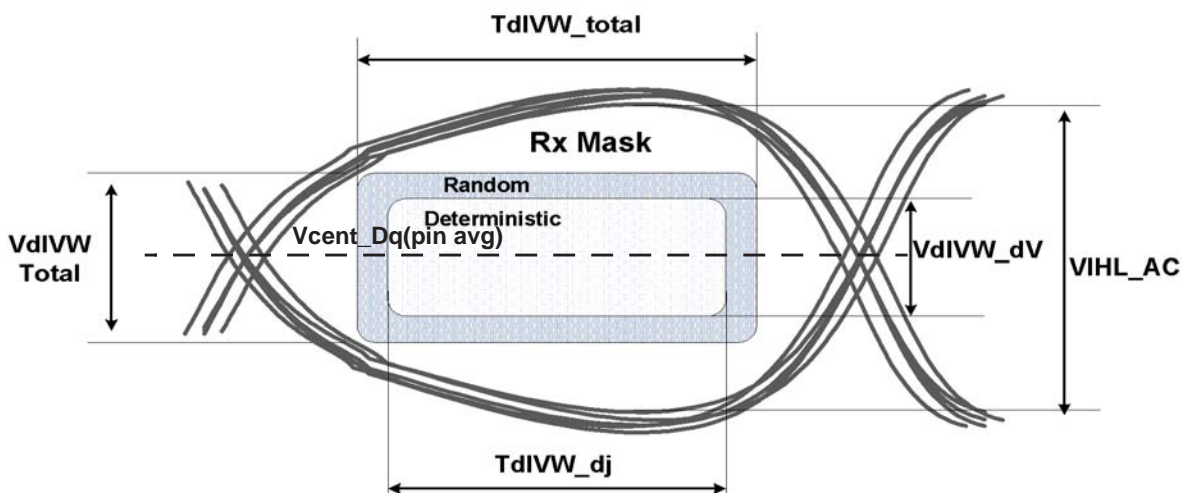

Figure 186 — DQ Receiver(Rx) compliance mask
12.4 The DQ input receiver compliance mask for voltage and timing (see Figure 186)